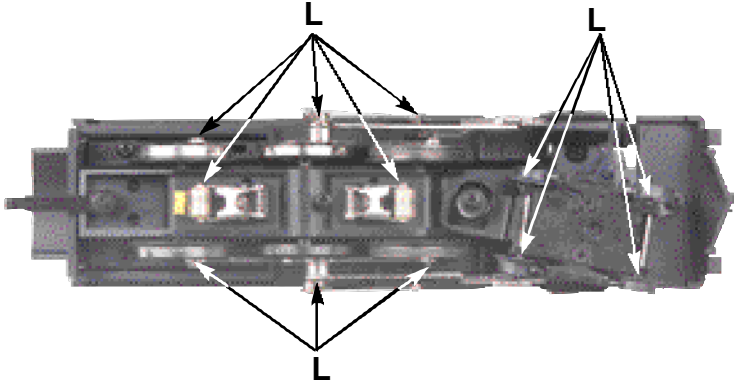
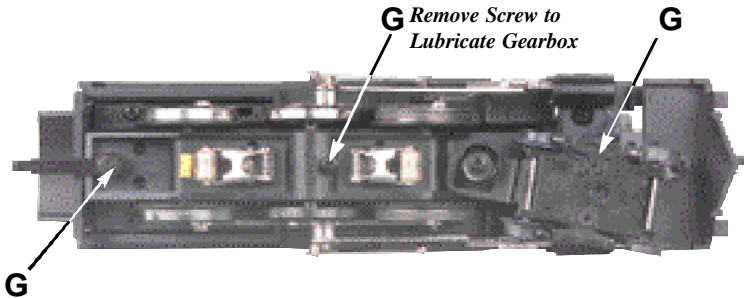

Figure 4 - Lubricating the Engine
Figure 6 - Greasing the Engine
3. You should lubricate all side rods and linkage components and pickup rollers to prevent them from squeaking. Lightly grease the drive gears (marked "G" in Fig. 6 on page 8) to prevent them from squeaking. Use light household oil and follow the lubrication points marked "L" in Fig. 4 on p. 7. Do not over-oil. Use only a drop or two on each pivot point.
You should regularly lubricate all side rods and linkage components and pickup rollers to prevent them from squeaking. Use light household oil and follow the lubrication points marked "L" in Fig. 4. Do not over oil. Use only a drop or two on each pivot point.
You should also grease the leading and trailing locomotive truck tongues to enhance their ability to slide on the chassis. Follow the grease points shown on Fig. 6.